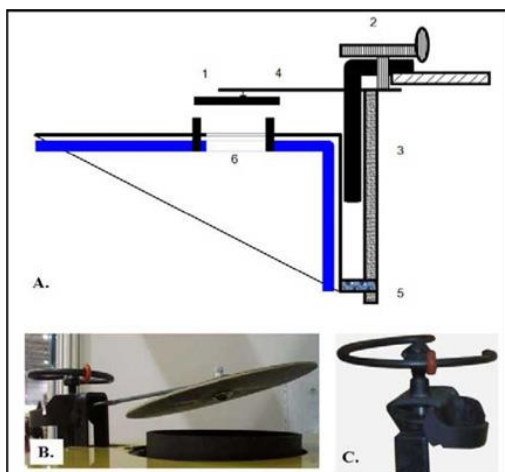

Figure 15
After bringing the boiler into boiler room and connecting it to the piping of heating system, check if parts of draft regulator are not deformed. Bump of its metal part (5) must be in the hole of valve lever and the spike of temperature adjustment bolt (2) must be in recess of lever. Recess and hole are close to each other – 3,5 cm apart. Check if valve completely seals the air vent (6) and if the bolt that holds the valve is loose, do not tighten it. Set the valve 3-5 cm from air supply opening using supportive bolt and only then ignite the boiler (Fig.15 B). When metal and water
get hotter, cylinder becomes longer and lowers the valve. When indications of thermometer becomes stable under 80 °C, slightly open the valve by using temperature adjustment bolt (2) if temperature is higher than 80 °C – slightly close it till temperature falls under 80 °C. Later, if the temperature is too low, turn the adjustment bolt so that valve would be lifted, if temperature is too high, turn the bolt to opposite direction closing the valve. Also adjust the marking ring, so that you would know the position of valve (Fig.15 C), for example: it is advisable to close the valve when removing ash. We want to remind you that boiler operation temperature must be 70 – 90 °C.